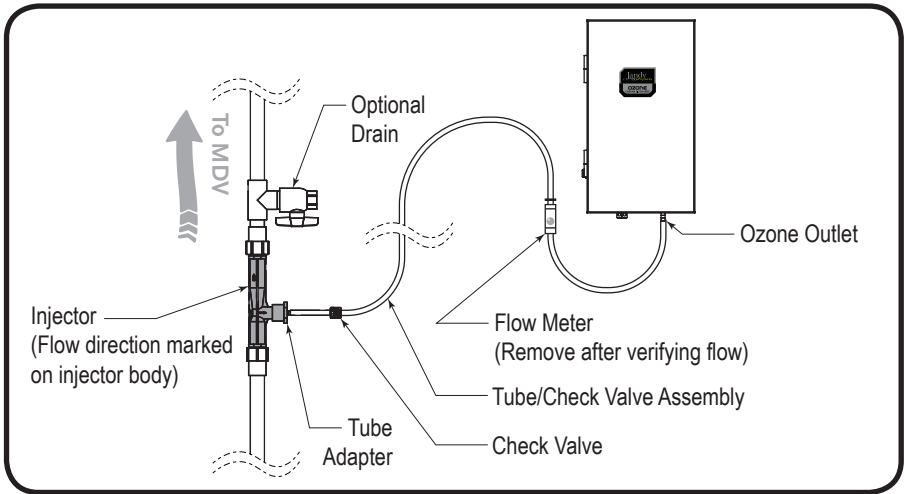

Figure 6. Ozone Injector Setup
- a. At this point an optional drain valve can be plumbed to drain the MDV for winterization or maintenance. See "Figure 6. Ozone Injector Setup".
17. Connect the other end of the tube to the tube adapter on the injector input. Secure tubing with tube clamps. See "Figure 6. Ozone Injector Setup".